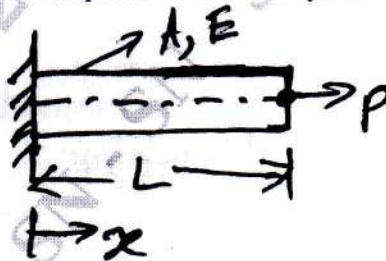

Fig Q3(b)
- b. Use Galerkin method, for find the displacement of the system shown in Fig Q3(b)